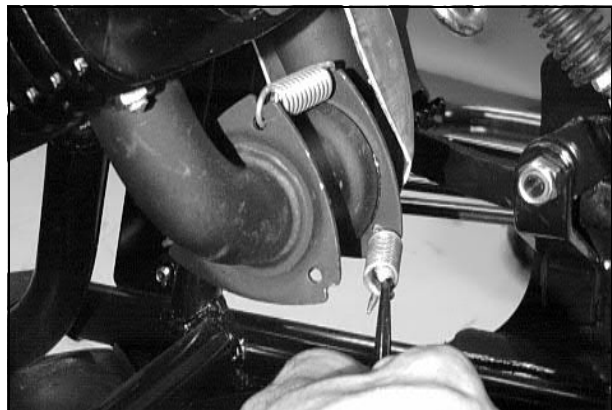

Fig. 4
6. Remove the springs securing the exhaust header pipe to the engine, (Fig. 4).